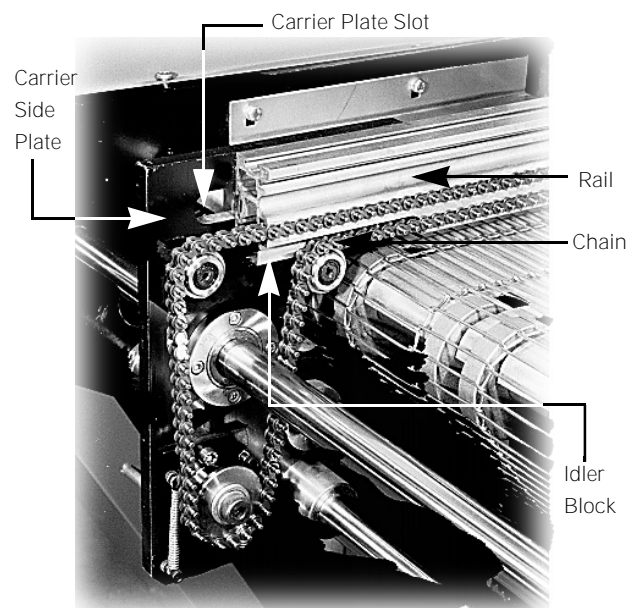

Figure 100: Cleaning and Greasing Locations
8. Using a feeler gauge, verify there is a 0.127 – 0.33 mm (0.004 – 0.013 in.) gap between the lower portion of the rail and idler block. If necessary, loosen the socket head screws attaching the idler block to the carrier plate to facilitate adjustment and retighten. Refer to Figure 100 for location of the rail and idler block.